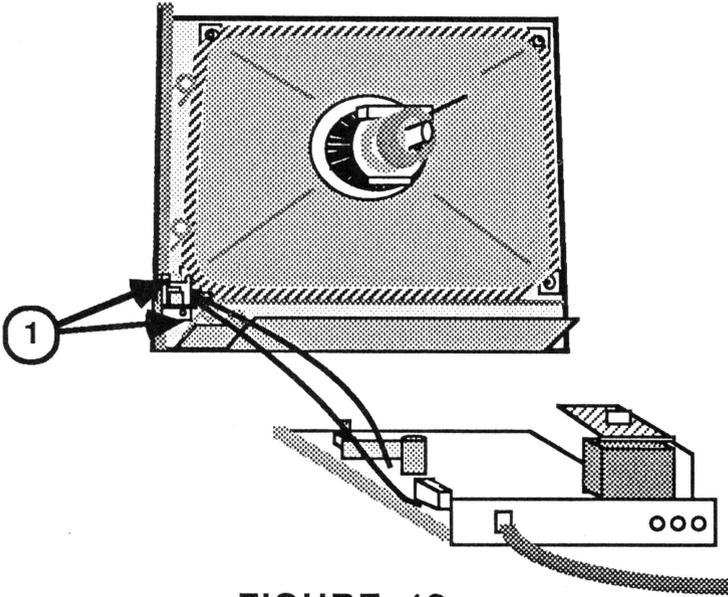

FIGURE 12
- a. Remove the two screws* that secure the on/off switch bracket to the front bezel (Figure 12, #1).